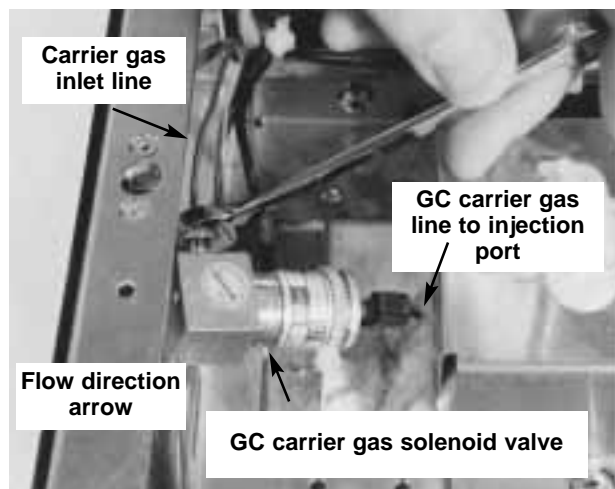

Fig 3.7 The Swagelok fittings should be tightened 3/4 turns past finger tight using a 5/16" wrench.
7. Determine the flow direction of the GC carrier gas solenoid valve (783999-24). There is an arrow on the side of the valve which notes the flow direction of the valve. Install the valve where you have just made the cut in the carrier gas line such that the outlet of the valve is toward the injection port of the GC. Install the valve in such a position that the valve will not interfere with the covers of the GC when they are replaced later. **See Figure 3.6.** Be sure the 1/16" SS line is completely seated in the Swagelok™ fittings on the solenoid valve. Tighten the fittings finger tight and then tighten 3/4 turn further with a 5/16" wrench. **See Figure 3.7**